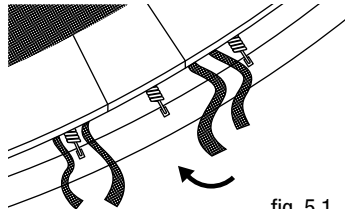

fig. 5.1
- a) Place the frame cushioning (2) with the warning notices turned upwards on to the trampoline so that it covers the springs and steel frame. Make sure the frame cushioning is covering all metal parts. Lay out the elastic bands (fig. 5.1) so that every second band goes over a leg support.